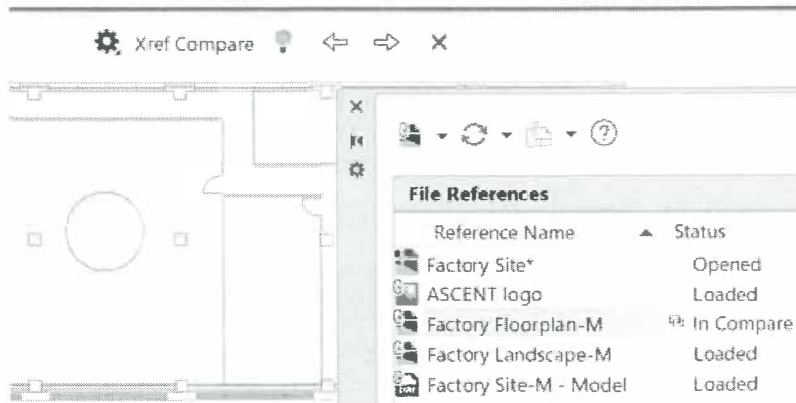

Figure 11–47
16. In the External References palette, right-click on **Factory Floorplan-M.dwg** and select **Compare>Recent Changes**. Note that the drawing is in the Compare mode, enclosed in a blue border and the Xref Compare toolbar displayed along the top of the drawing window, as shown in Figure 11–47. Also note that the circle that you added to **Factory Floorplan-M.dwg** is surrounded by a yellow rectangular revision cloud, as shown in Figure 11–47. Additionally, note that in the External References palette, the **Factory Floorplan-M.dwg** displays as **In Compare**, as shown in Figure 11–47.